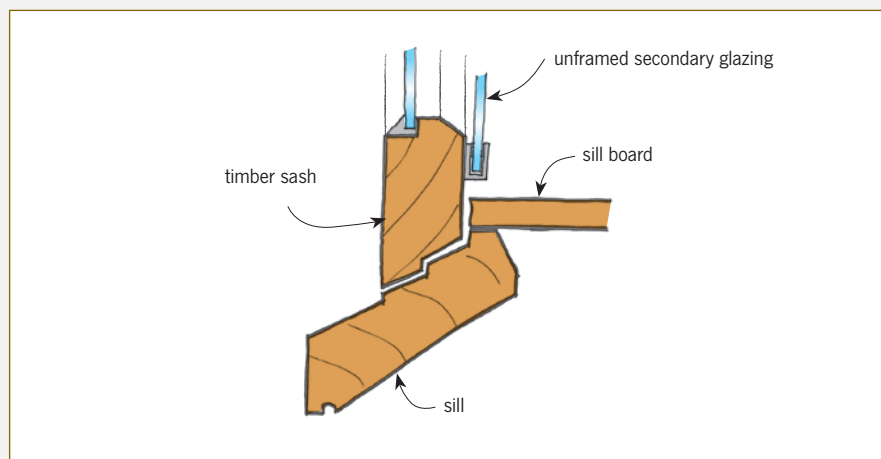

Figure 1. Unframed secondary glazing
- unframed glazing, where glazing material is connected directly to the existing timber sash rails and stiles, or between mullions and transoms (see Figure 1)